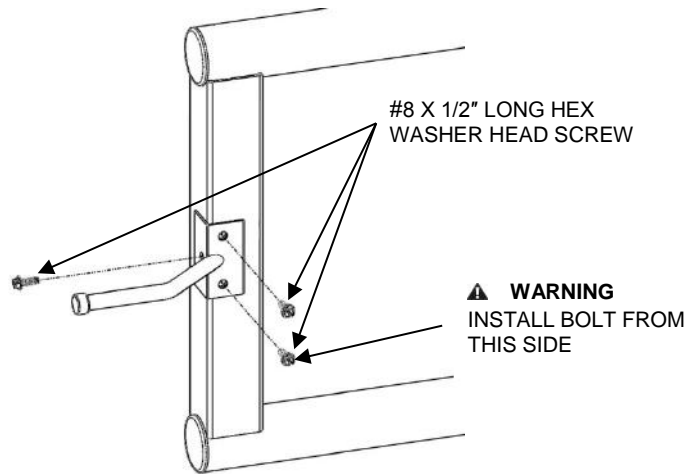

FIG. 7.18
7.8.6. Use 1/4" nut driver to secure catch with screws (FIG. 7.18).